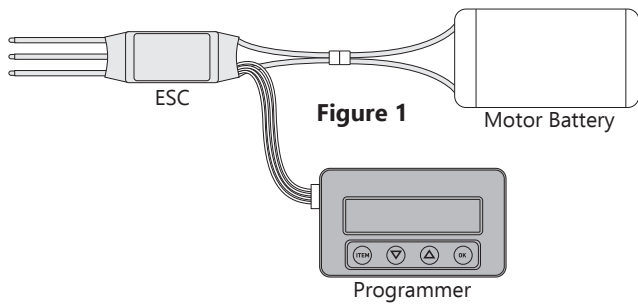
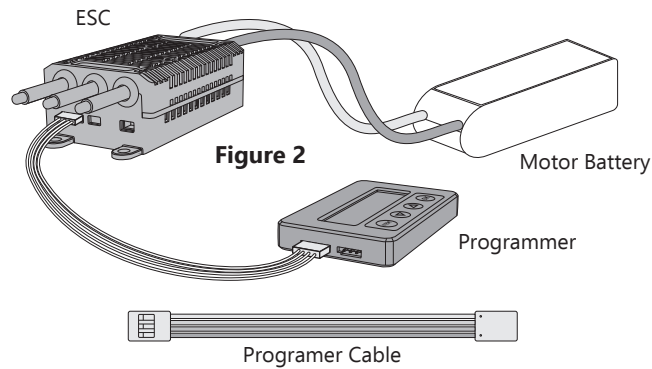

Figure 1
Figure 2
3. For ESC's that have an integrated Control/Programming lead see Figure 1 below. For ESC's that have a separate removable programming lead, see Figure 2 below.